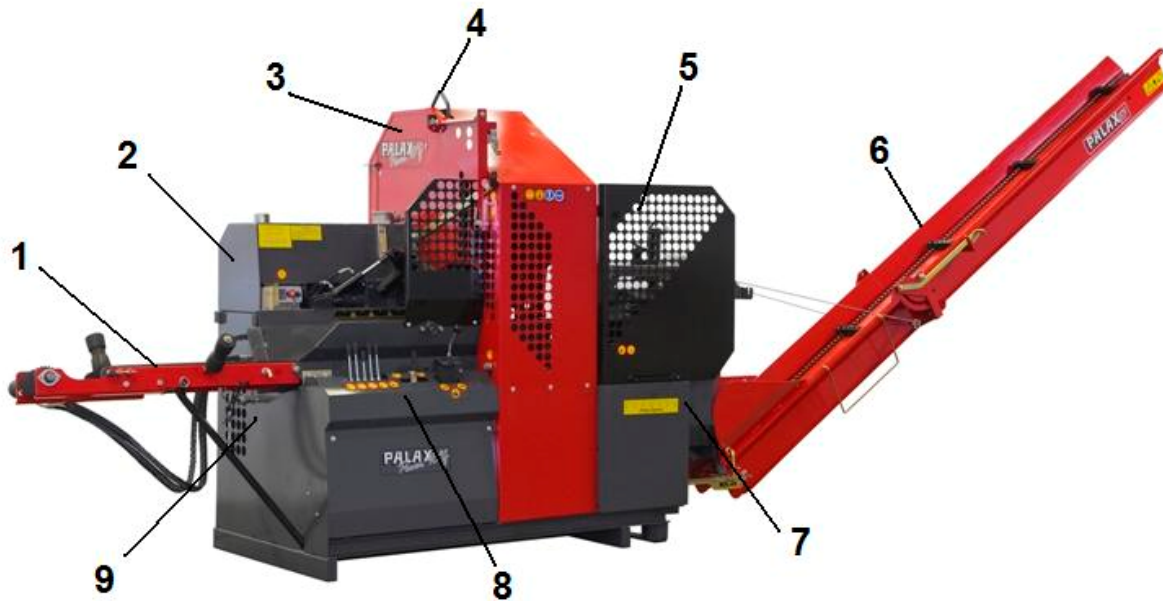

Fig. 1
2.4 Main parts of the machine, Fig 1